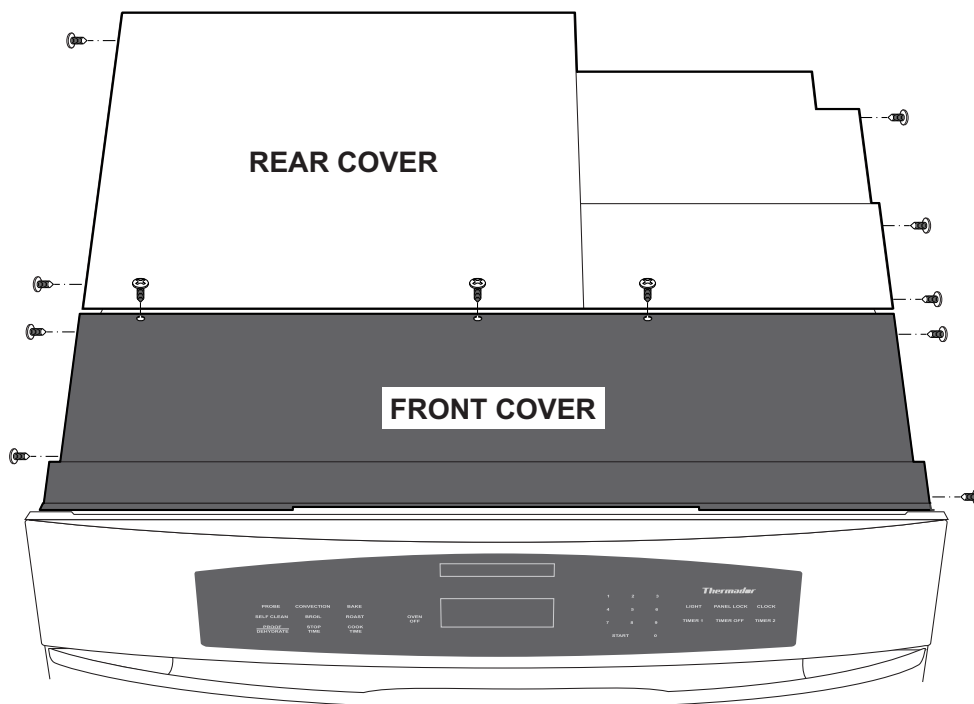

Figure 14
3. Remove the plenum front and rear covers (see Figure 14).